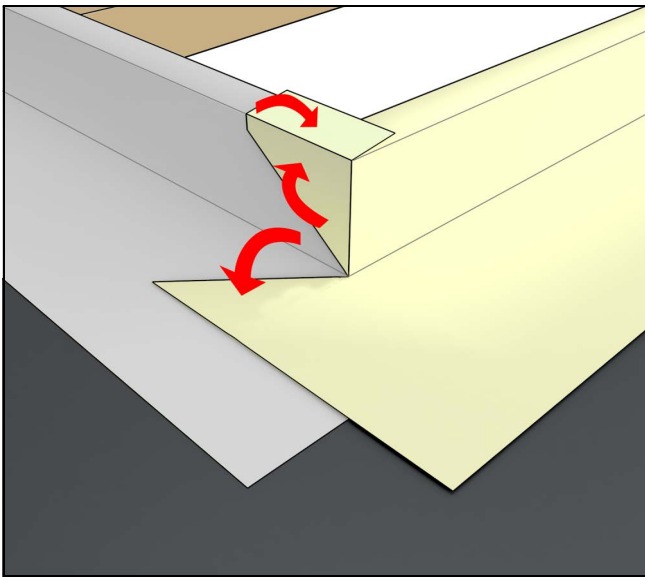

Figure 34
6. Wrap the jambs and the corners of the curb with the adhesive flexible flashing and create proper water-shedding lap. Repeat by applying the adhesive flexible flashing to the head jamb and the corners of the curb and create proper water-shedding lap. See Figure 34.